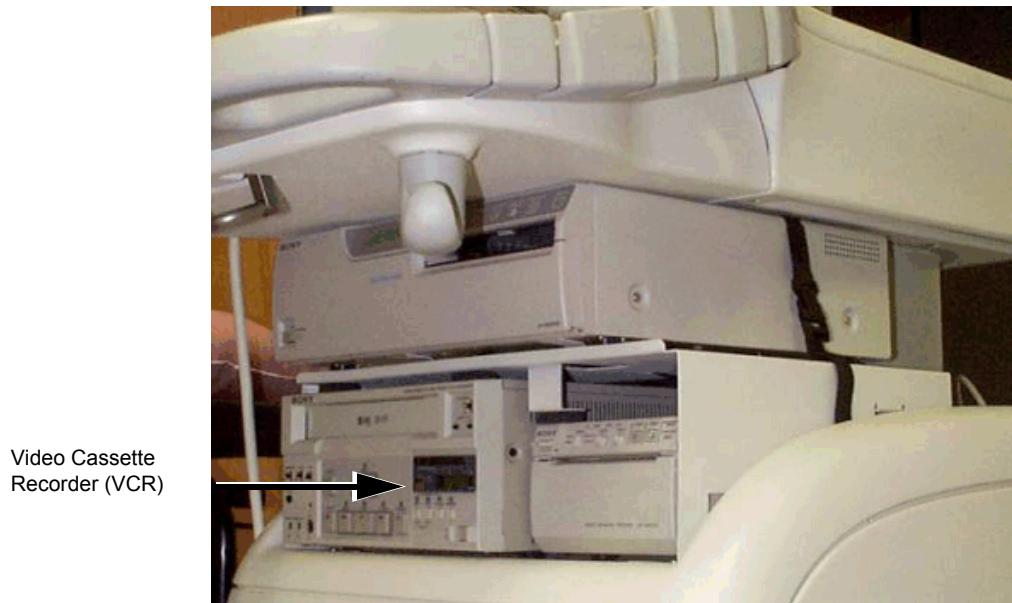

Figure 8-129 Video Cassette Recorder (VCR) Installed in the Vivid™ 3 Ultrasound Unit Configuration with UP2950 Printer
- 1.) Place the VCR on the *left* side of the Vivid™ 3 ultrasound unit's top surface (below the control console - as shown in Figure 8-129 below) and next to the B/W Printer, if present, allowing sufficient room to access the cables at the rear of the VCR.
- 5.) Remove the VCR from the *left* side of the Vivid™ 3 ultrasound unit (taking it out from below the control console and from beside the B/W printer, if present) - refer to Figure 8-129 on page 8-138.